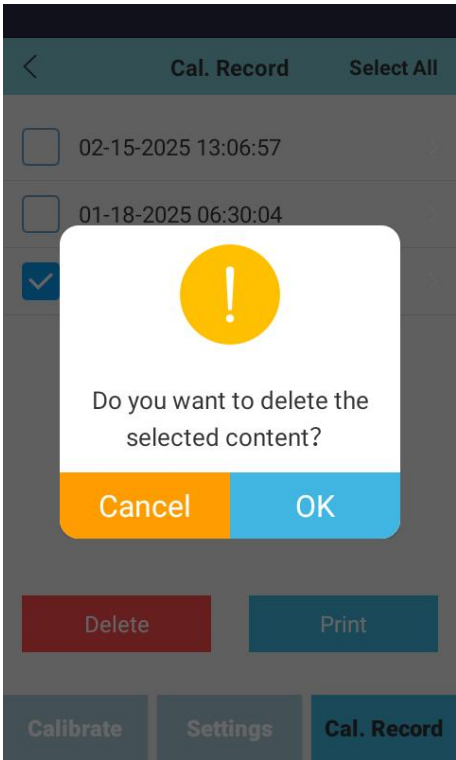

Figure 6.84
- 3) Delete Button: If data is selected: prompts “Delete selected items?” (Figure 6.84). Tap “Confirm” to delete; “Cancel” to return. If no data is selected: prompts “Please select at least one item.”